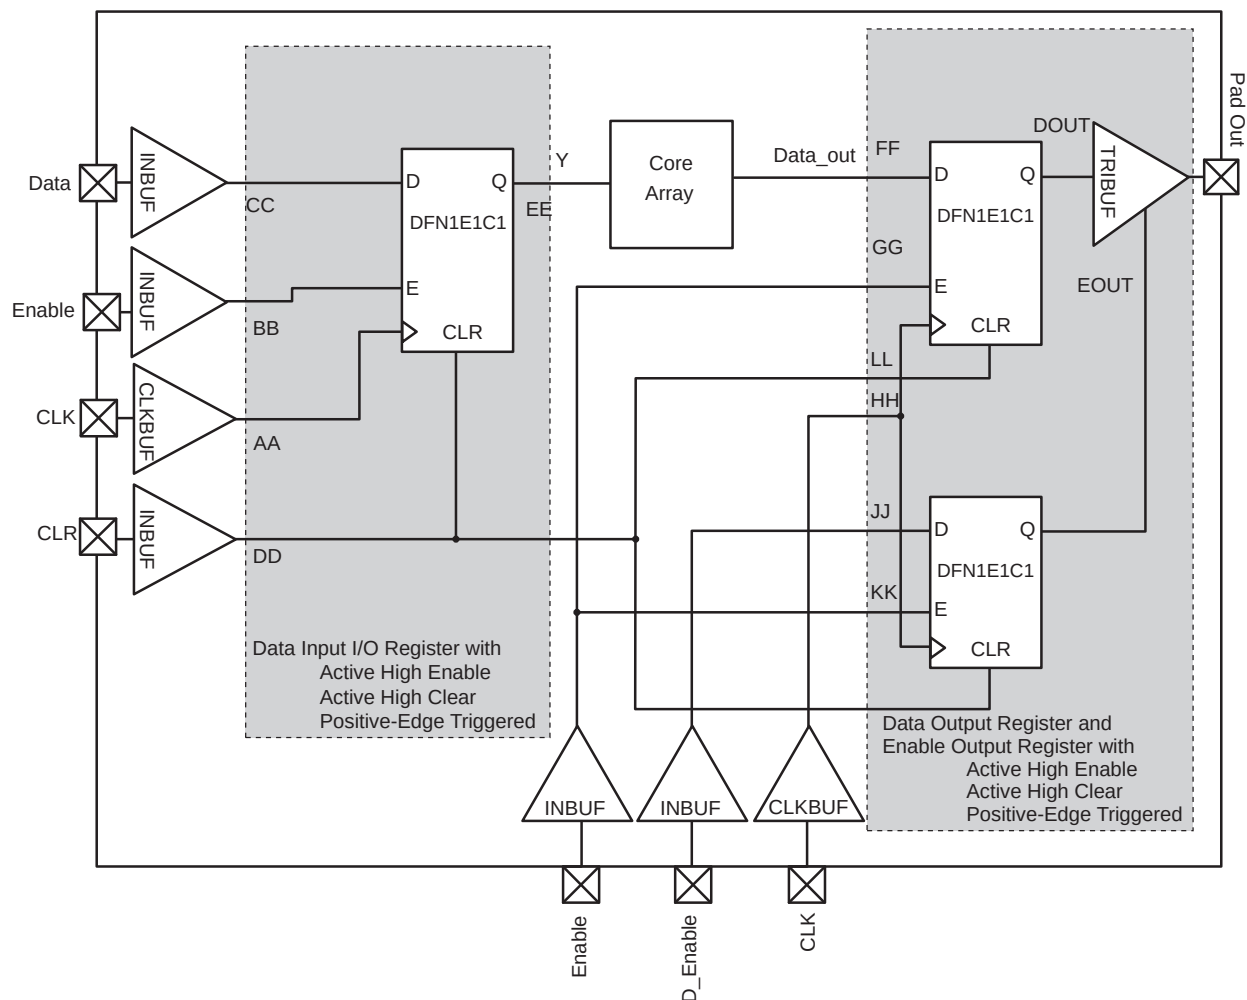

Figure 2-15 • Timing Model of the Registered I/O Buffers with Synchronous Enable and Asynchronous Clear
*Note:* \*See Figure 2-15 on page 2-70 for more information.